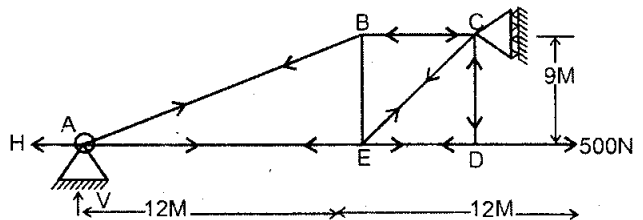

Figure 7
- (b) Figure 7 shows a truss with supports on planes that are perpendicular to each other. Determine the forces in each member of the truss due to the given loading. [7]